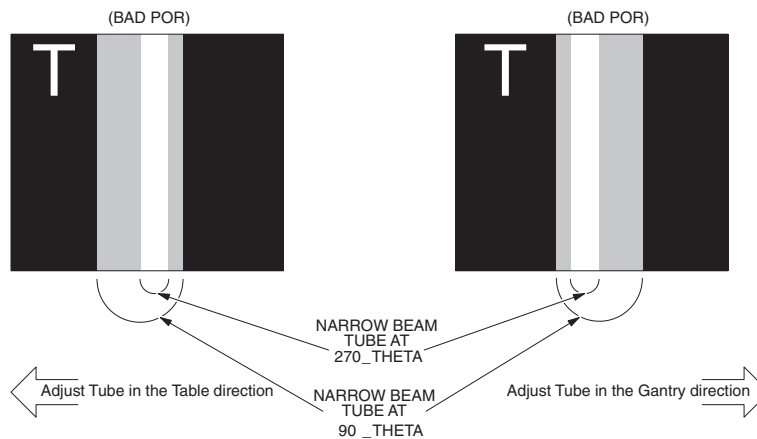
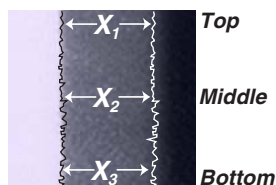

Figure 9-10 Plane of Rotation Film Interpretation
Figure 9-11 XF and XR measurement points
- 7.) Verify the following (refer to Figure 9-10):
- 8.) Refer to Figure 9-10 and Figure 9-11 during the following instructions. Use a vernier calipers to measure the width of the two wider (dark gray) slits. They're the dark gray slits that extend past the edges of the narrower (off-white) slit and to the blackest part of the film.
- If adjustment is necessary, clockwise rotation (in) of adjustment bolt moves the tube towards the table side. Repeat Steps 1 through 9 again if you have moved the tube, to check accuracy of adjustment. See Figure 9-10 for more details.